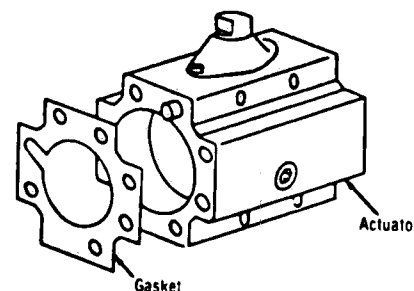

Figure 7-11. GASKET REPLACEMENT.
15. Gasket — Place actuator body so the nameplate is on the left. Replace gasket on the actuator body so the notch in the gasket is at the 10 o'clock position (see Figure 7-11).